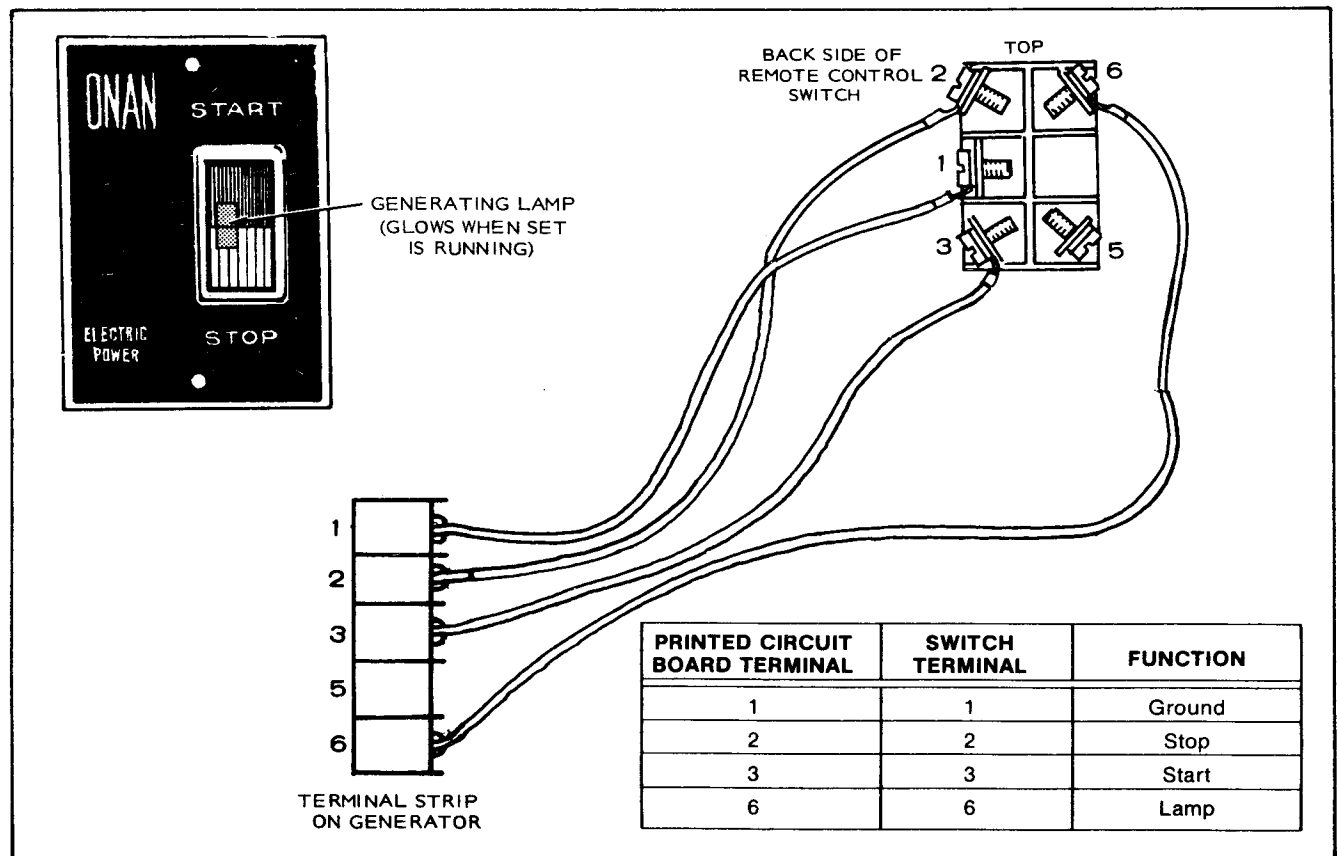

FIGURE 17. CONNECTING REMOTE CONTROL (300-0985)
2. Following national and local electrical codes and using four insulated wires of predetermined length (#18 or larger), connect remote switch to terminals on generator. See Figure 17.